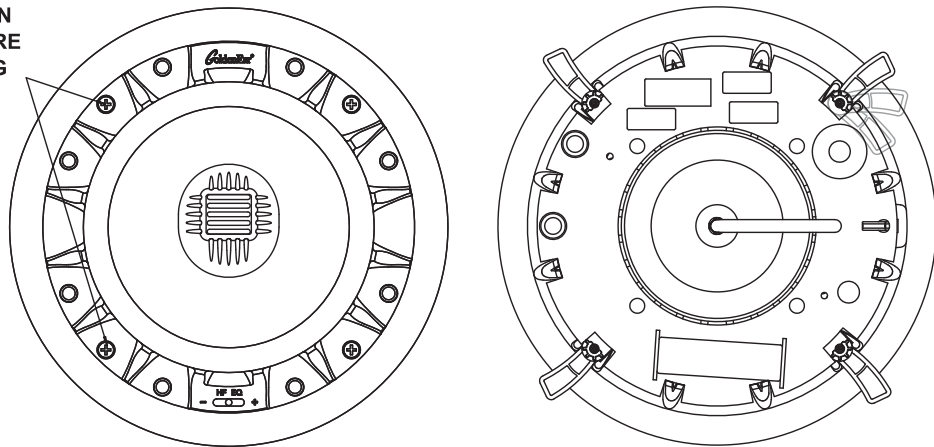

Figure 7
10. While holding in place, tighten the four lock arm screws with a screwdriver (Figure 7). This will rotate the lock arms and secure the speaker to the wall/ceiling. **DO NOT OVERTIGHTEN** the lock arm screws as this could damage the drywall. If you are using a power screwdriver or drill, set the torque to a value of no more than 7 in.-lb (8dN-m).
**TURN ARM SCREWS (4)